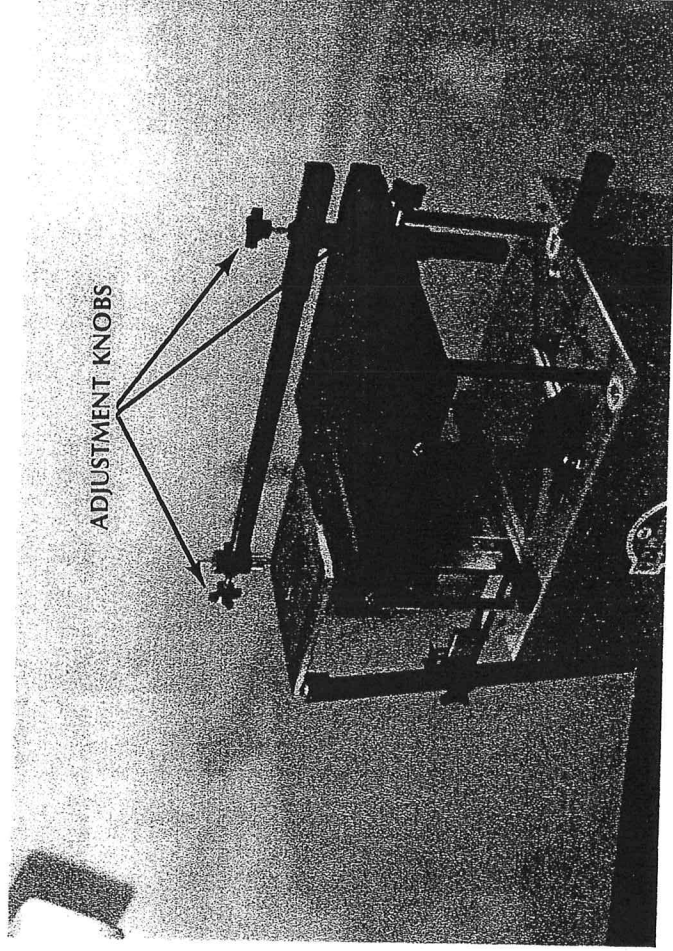

Fig. 41
3. Adjust the assembly to correct height and arm length settings. (fig. 41)